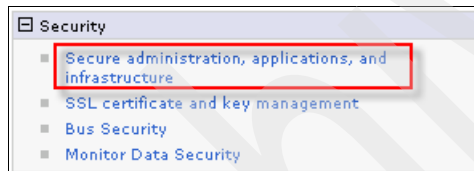

Figure 7-10 Security
1. In the WebSphere Administrative Console menu (Figure 7-10), expand **Security** and click **Secure administration, applications, and infrastructure**.